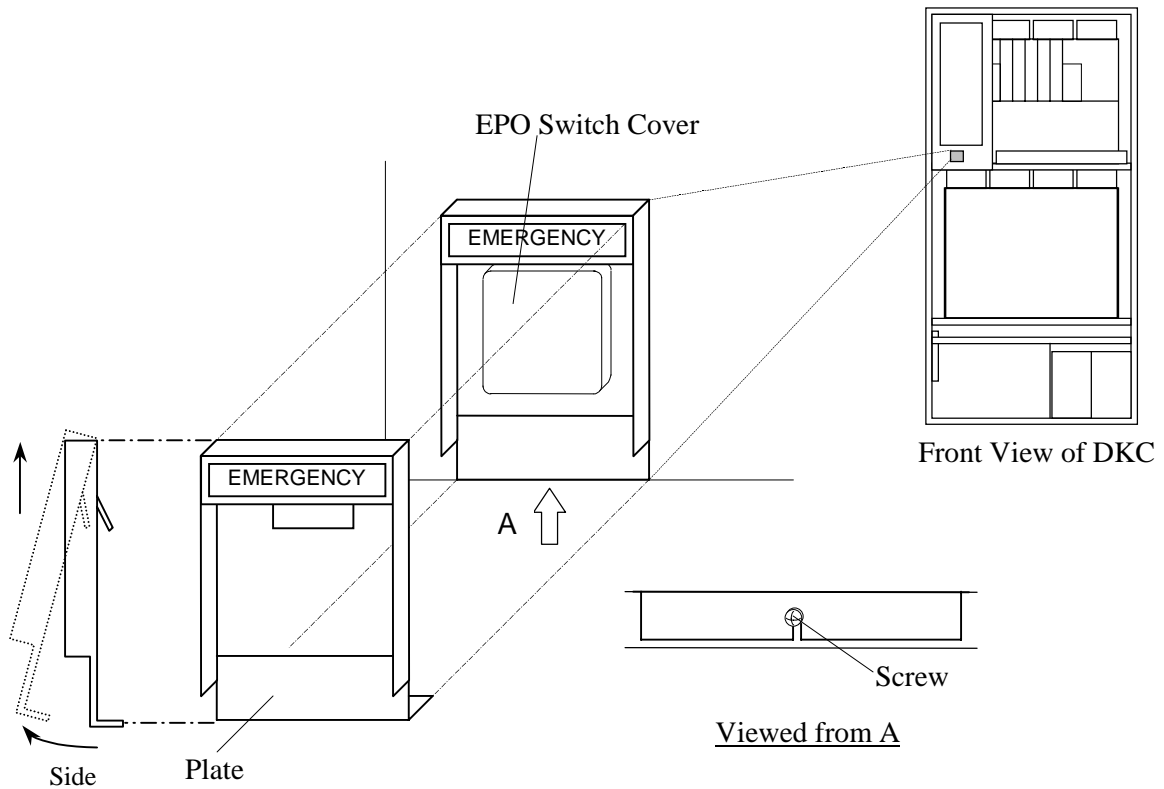

Fig. T1-2 Removal of Plate
- c. Attach the plate and fasten the screw. Refer to Fig. T1-2.